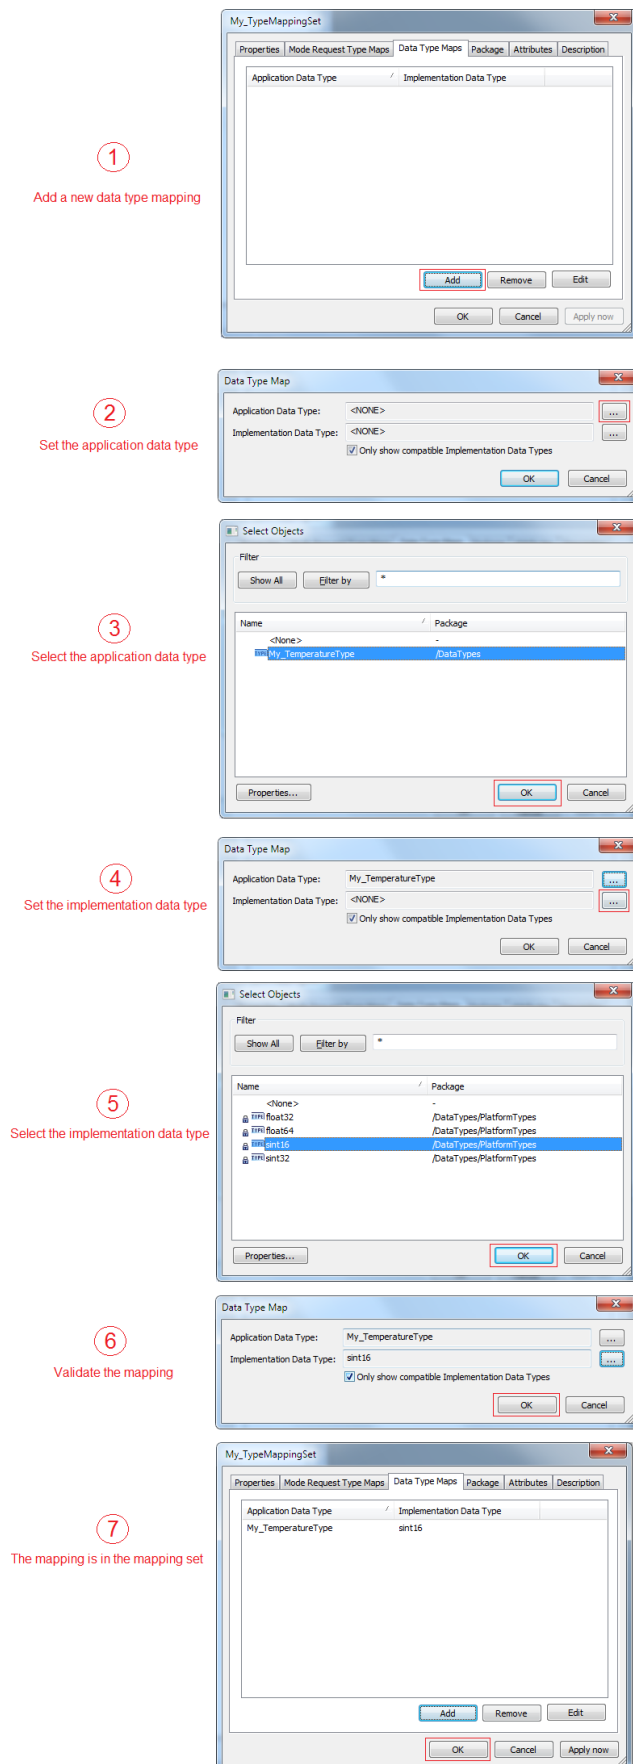

Figure 4-9 Add a data type mapping to a type mapping set
- > The data type mapping is done in the “Data Type Maps” tab of the type mapping set property dialog (the steps are described Figure 4-9)